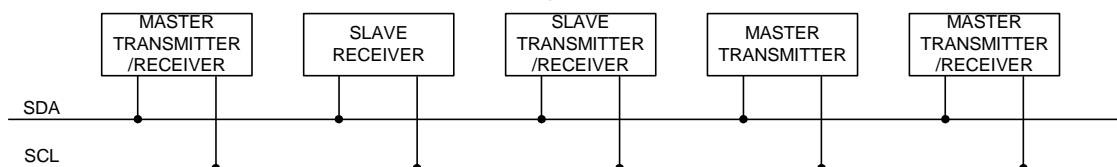
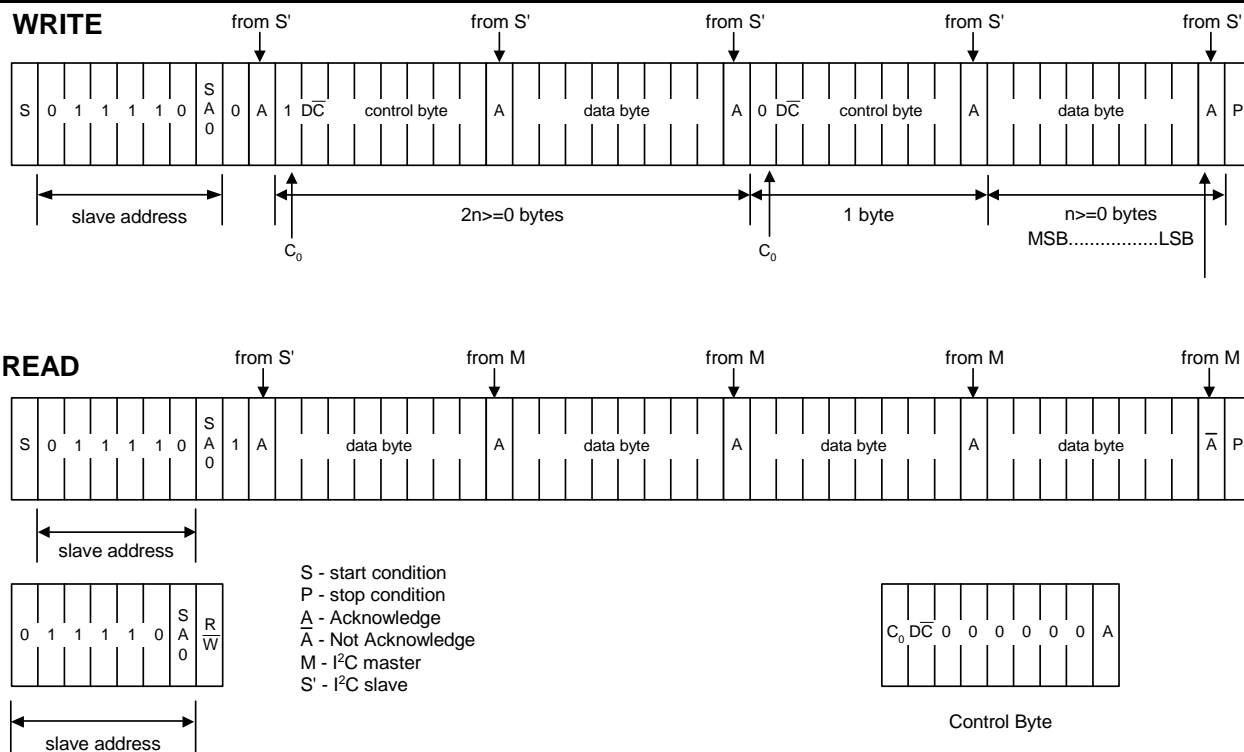

Figure. 7 System configuration
Figure 9 I²C Protocol
The SH1122 supports both read and write access. The R/\bar{W} bit is part of the slave address. Before any data is transmitted on the I²C-bus, the device that should respond is addressed first. Two 7-bit slave addresses (0111100 and 0111101) are reserved for the SH1122. The least significant bit of the slave address is set by connecting the input SA0 to either logic 0(VSS) or 1 (VDD1). The I²C-bus protocol is illustrated in Fig.9. The sequence is initiated with a START condition (S) from the I²C-bus master that is followed by the slave address. All slaves with the corresponding address acknowledge in parallel, all the others will ignore the I²C-bus transfer. After acknowledgement, one or more command words follow which define the status of the addressed slaves. A command word consists of a control byte, which defines C_0 and D/\bar{C} (note1), plus a data byte (see Fig.7). The last control byte is tagged with a cleared most significant bit, the continuation bit C_0 . After a control byte with a cleared C_0 -bit, only data bytes will follow. The state of the D/\bar{C} -bit defines whether the data-byte is interpreted as a command or as RAM-data. The control and data bytes are also acknowledged by all addressed slaves on the bus. After the last control byte, depending on the D/\bar{C} bit setting, either a series of display data bytes or command data bytes may follow. If the D/\bar{C} bit was set to '1', these display bytes are stored in the display RAM at the address specified by the data pointer. The data pointer is automatically updated and the data is directed to the intended SH1122 device. If the D/\bar{C} bit of the last control byte was set to '0', these command bytes will be decoded and the setting of the device will be changed according to the received commands. The acknowledgement after each byte is made only by the addressed slave. At the end of the transmission the I²C-bus master issues a stop condition (P). If the R/\bar{W} bit is set to one in the slave-address, the chip will output data immediately after the slave-address according to the D/\bar{C} bit, which was sent during the last write access. If no acknowledge is generated by the master after a byte, the driver stops transferring data to the master.